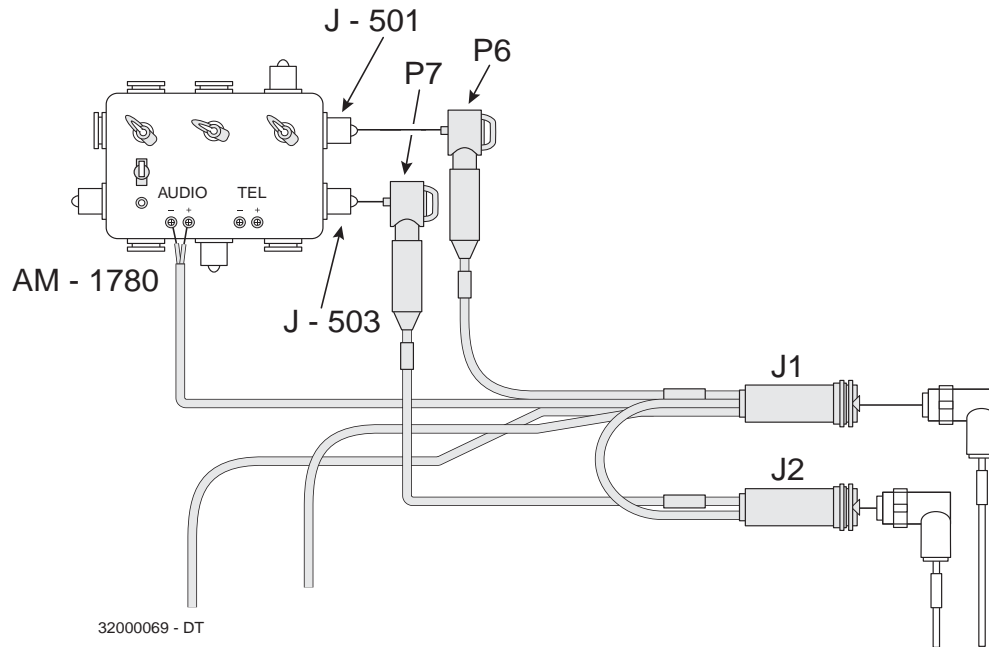

Figure 2-35. Cable routing to AM-1780 Amplifier.
- a. Route segment (P7) and segment (J2) to the AM-1780 amplifier and connect (P7) to the (J503) connector on the amplifier. Connect (J2) to the removed cable connector. (See Figures 2-35 and 2-36.)